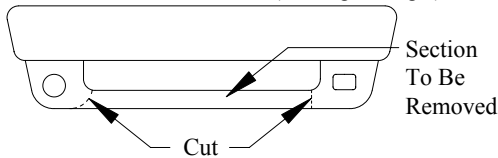

FIGURE 1
****See Note Below and Figure 1**
①	Qty. (2)	Hex Bolt, 1/2”-13 x 1-3/4”	③	Qty. (2)	Handle Nut, 1/2”
②	Qty. (2)	Conical Washer, 1/2”	④	Qty. (4)	Hex Bolt, M10 x 1.50 x 45
****NOTE: All Mazda vehicles and ‘93 through -97 Ford Rangers with fog light option require extensive fascia cut. See Figure 1. CONSULT VEHICLE OWNER.**